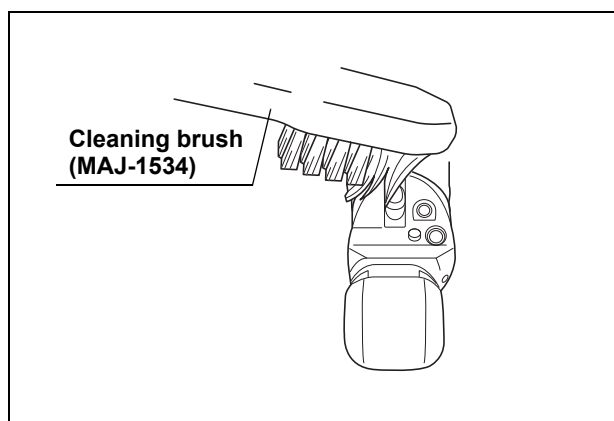

Figure 7.28
3. Look at the left side of the instrument channel opening from the distal end, brush the interior of this part with the cleaning brush (MAJ-1534) until all debris is removed (see Figure 7.28).